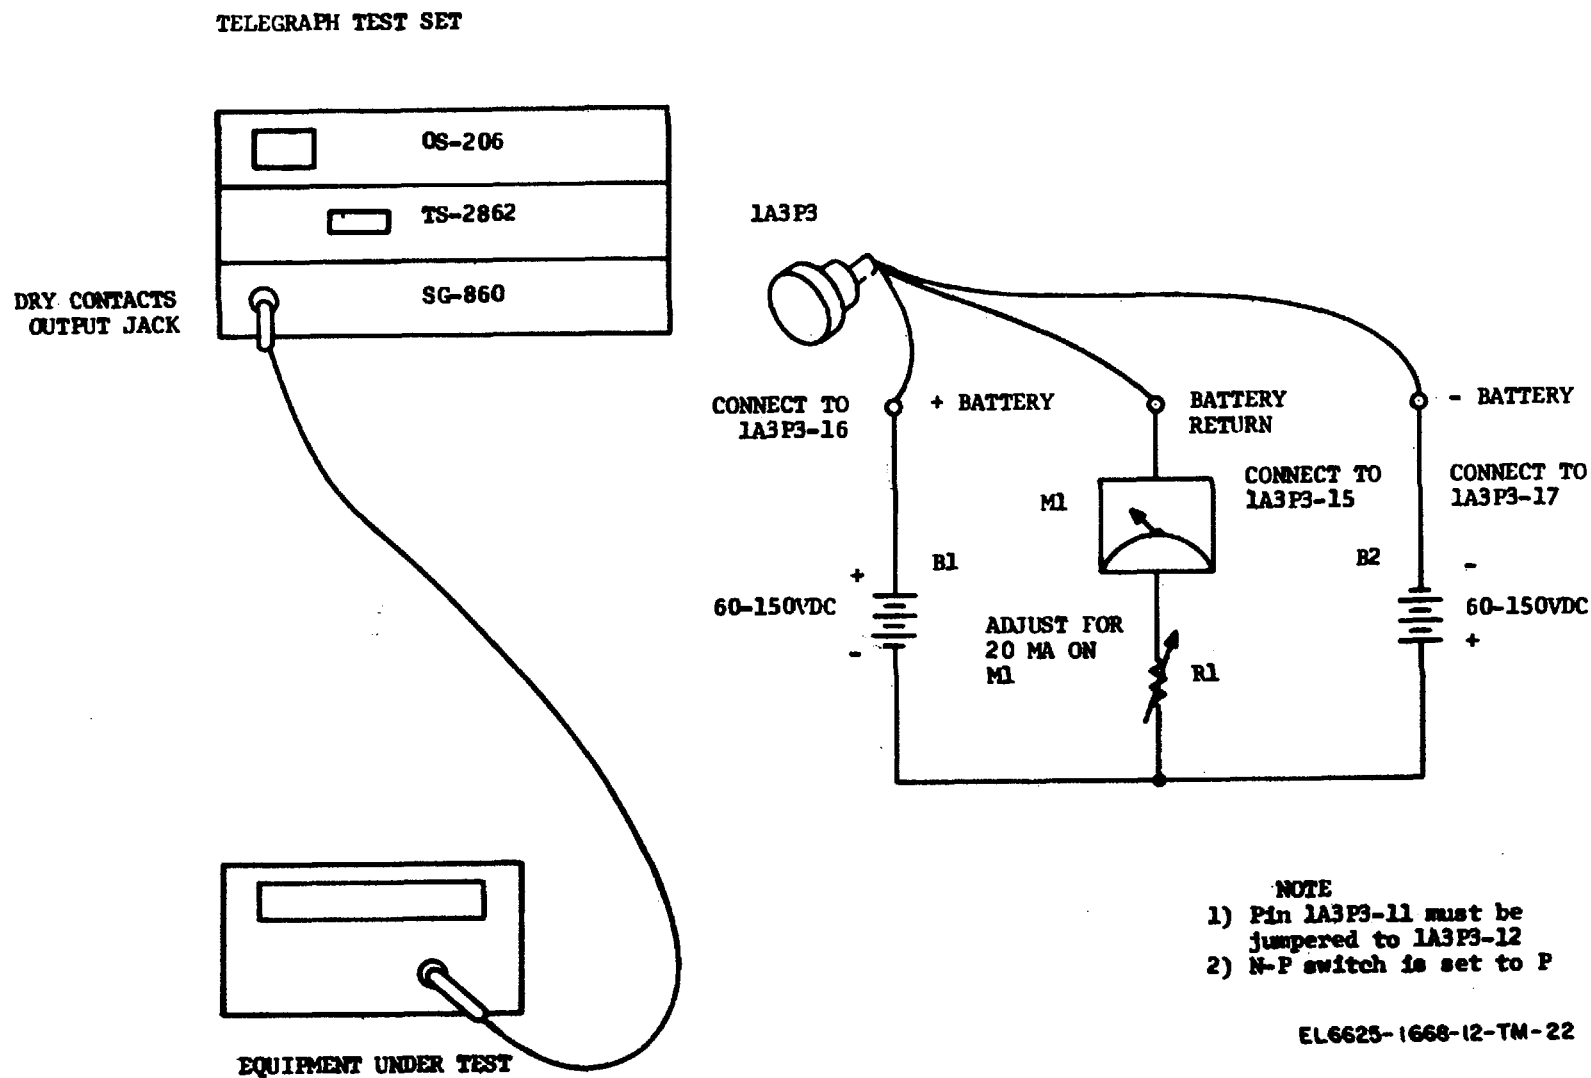

Figure 3-7. Free run selected character operation (high level).
(3) *Free Run Selected Character Operation.* The following is typical of a free run selected character transmission operating procedure. For purposes of this procedure 22% spacing bias distortion is introduced to the output signal and a 150-volt, 60-ma neutral loop supply is keyed (fig. 3-7). Assume 150-baud operation.